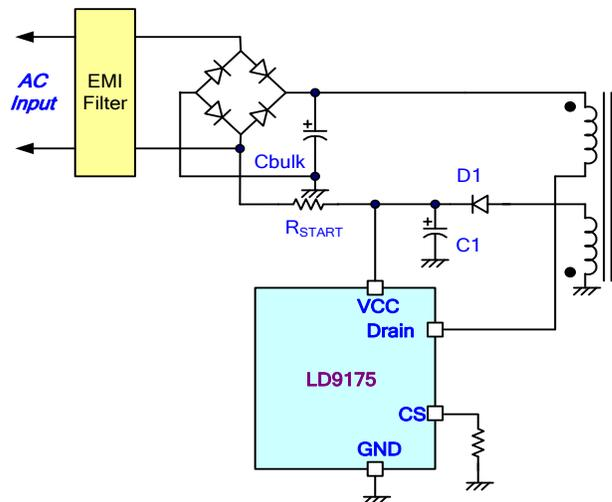

Fig. 13
The typical startup circuit to generate VCC of the LD9175 is shown in Fig. 13. At startup transient, the VCC is below the UVLO(ON) threshold, so there's no pulse delivered out from LD9175 to drive the power MOS. Therefore, the current through  $R_{START}$  will be used to charge the capacitor C1. Until the VCC is fully charged to deliver the drive-out signal, the auxiliary winding of the transformer will provide supply current. Lower startup current requirement on the PWM controller will help to increase the value of  $R_{START}$  and then reduce the power consumption on  $R_{START}$ . By using CMOS process and some unique circuit design, the LD9175 requires only 1.5µA max to start up. Higher resistance of  $R_{START}$  will spend much more time to start up. The user is recommended to select proper value of  $R_{START}$  and C1 to optimize the power consumption and startup time.